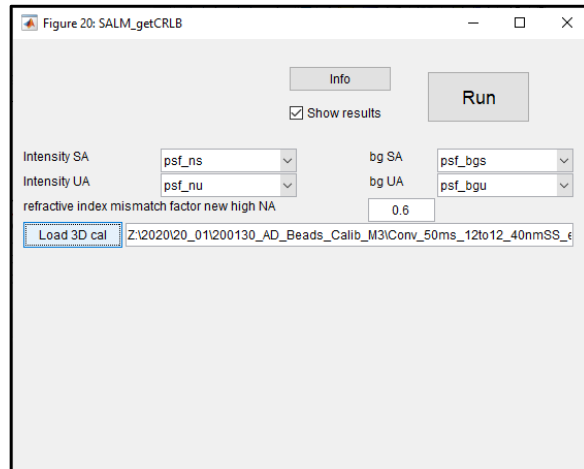

Figure 7: GUI to calculate Cramér–Rao lower bound (CRLB).
1. On the SMAP GUI open the plugin [Analyze] → [sr3D] →SALM_getCRLB as shown in Figure 7.